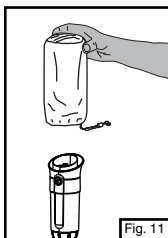

Fig. 11
- For models with a soft bag, remove soft bag from torch. (Fig. 11)